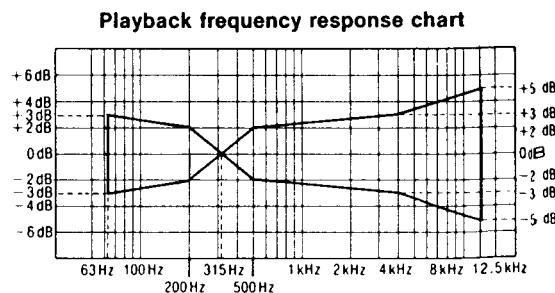

Fig. 5
2. Check that the frequency is within the range shown in Fig. 5 for both L-CH and R-CH.